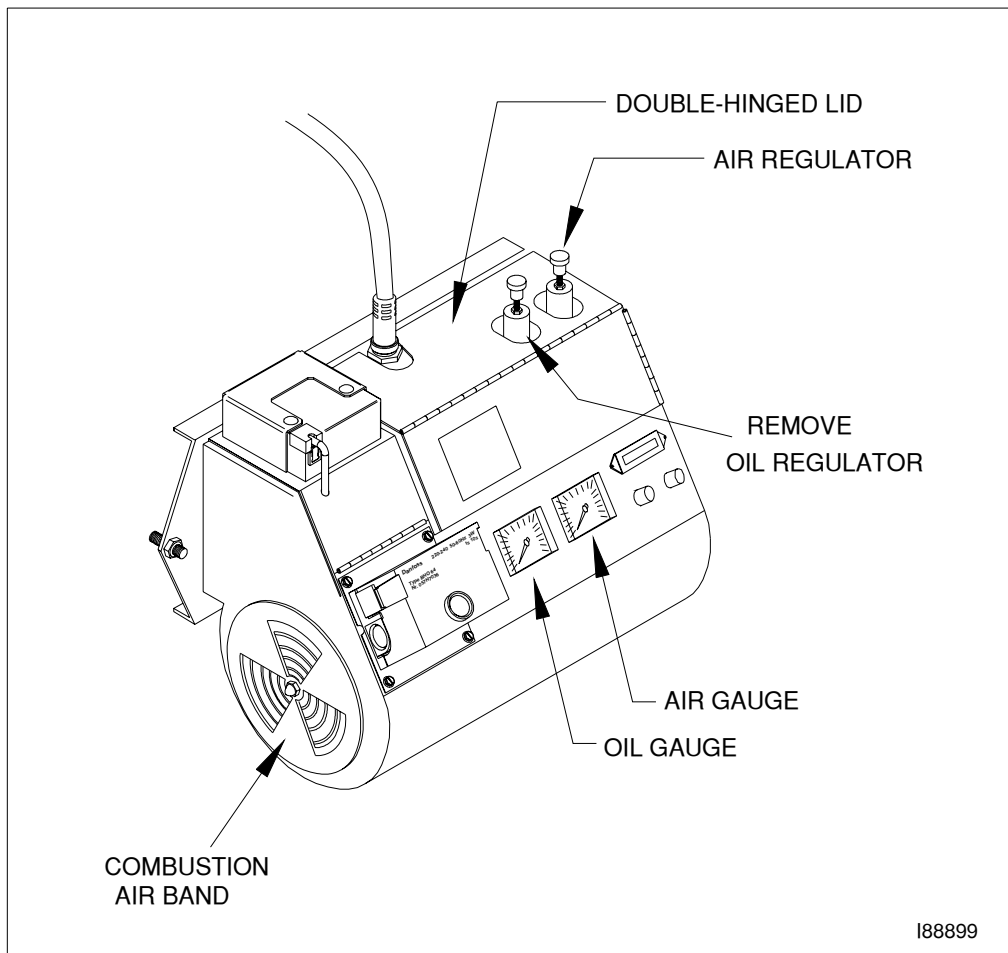

Figure 5A - Detail of Burner Components
1. Figure 5A shows an exterior view of the burner components. In this procedure, you will be removing the oil regulator from the preheater block assembly to prepare the burner for use with the metering pump.